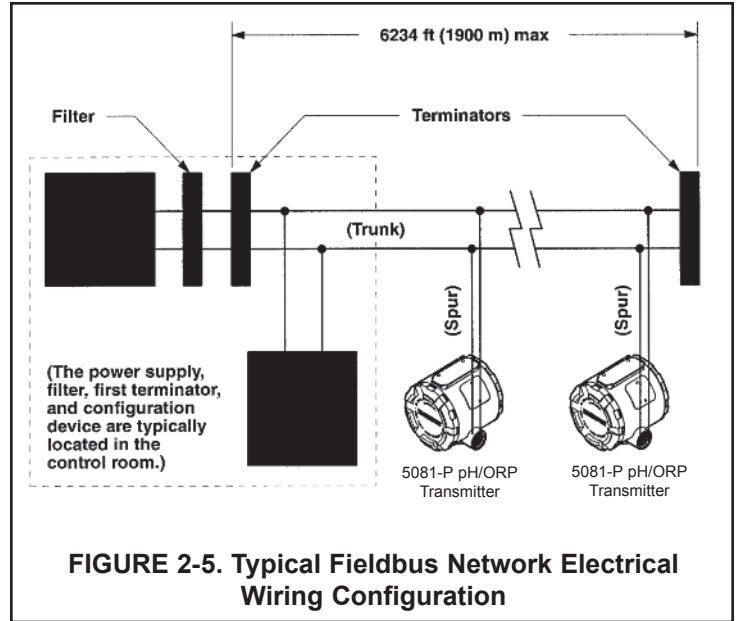
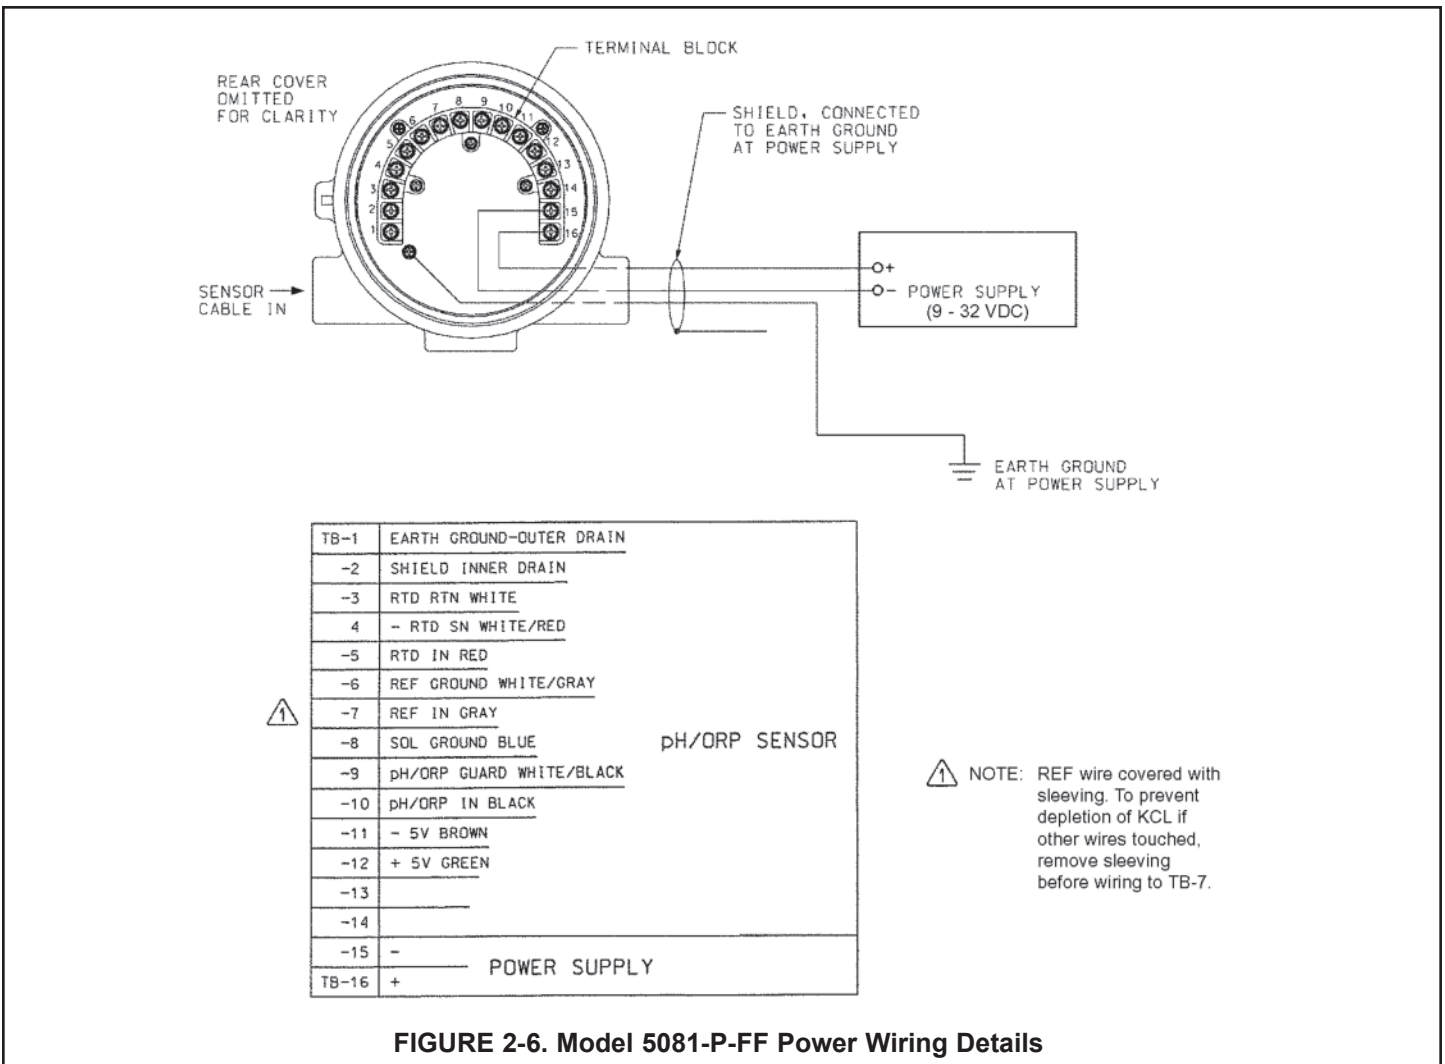

FIGURE 2-5. Typical Fieldbus Network Electrical Wiring Configuration
FIGURE 2-6. Model 5081-P-FF Power Wiring Details
2.6.1 Power Supply Wiring. Refer to Figure 2-5 and Figure 2-6.